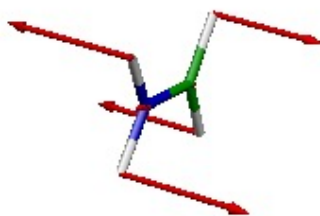

Fig. 4. Non-adiabatic coupling vector.
20. In the “frequencies” window mark show arrows and click choose and in frequency selection click on 5 and accept. The NAD vector will be plotted on the screen as in the Fig. 4.